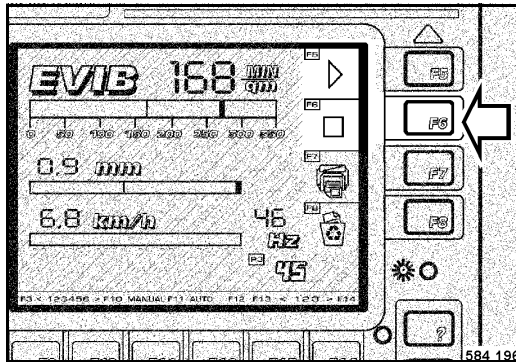

Fig. 99
- When the end of the track, mark 2, is reached, press the button F6 "STOP" (Fig. 99).